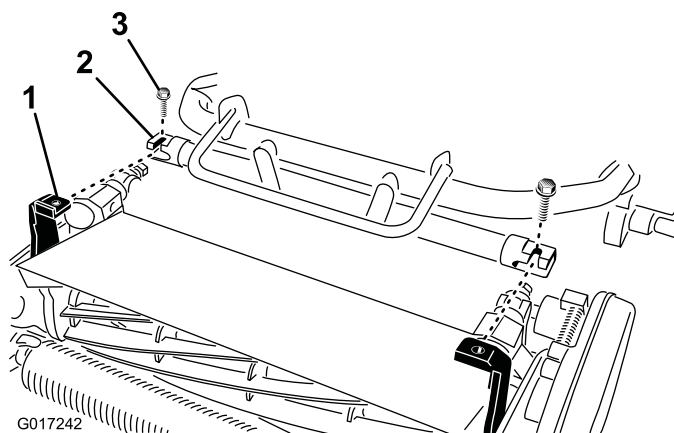

Figure 5
4. Maneuver the traction unit frame (Figure 5) forward until it engages the cutting unit pivot arms.
5. Secure the traction unit frame to the cutting unit pivot arms with 2 bolts (3/8 x 3/4 inch) as shown in (Figure 5).